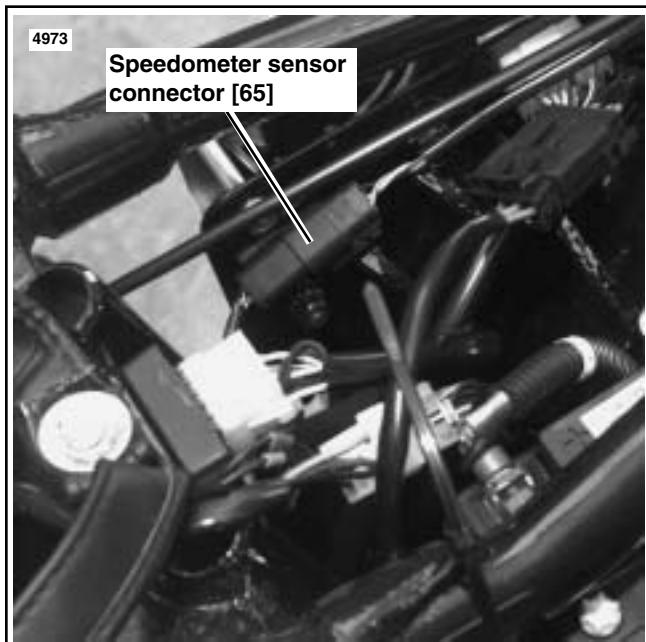

Figure 1. Speedometer Sensor Connection [65]
See Figure 1. The 3-place speedometer sensor connector [65] is located on the frame beneath the seat. Remove connector from t-stud and disconnect. Cut cable tie holding sensor wires to right rear frame tube.
- 11d. See Figure 1. Route speedometer sensor cable into position under fuel tank and seat and connect 3-place connector [65]. Place speedometer sensor cable into clips underneath fuel tank. Replace cable ties holding connector [65] to frame.
- See Figure 1. The 3-place speedometer sensor connector [65] is located on the frame beneath the seat. Remove connector from t-stud and disconnect. Cut cable tie holding sensor wires to right rear frame tube.